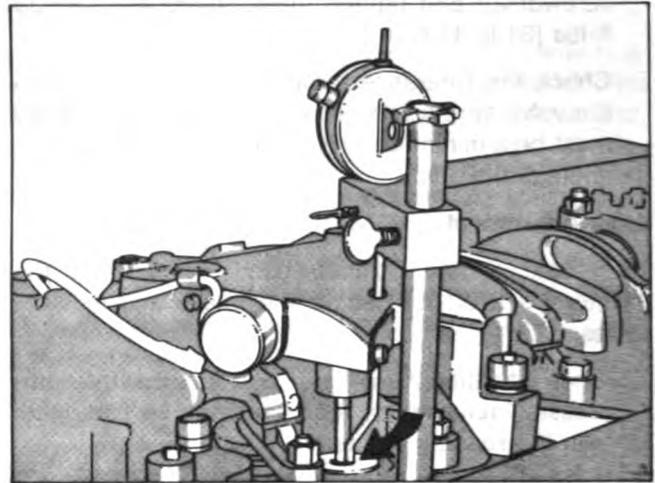

Fig. 2-53, (OM1061L). Dial indicator in place—extension in contact with plunger
2. Install 3375004 Dial Indicator Assembly to the rocker housing, extension (3375005) must go through the opening in the Jacobs Brake housing and contact the injector plunger top, Fig. 2-53.
3. Screw the injector lever adjusting screw down until the plunger is bottomed in the cup, back off approximately 1/2 turn then bottom again, set the dial indicator at zero (0).